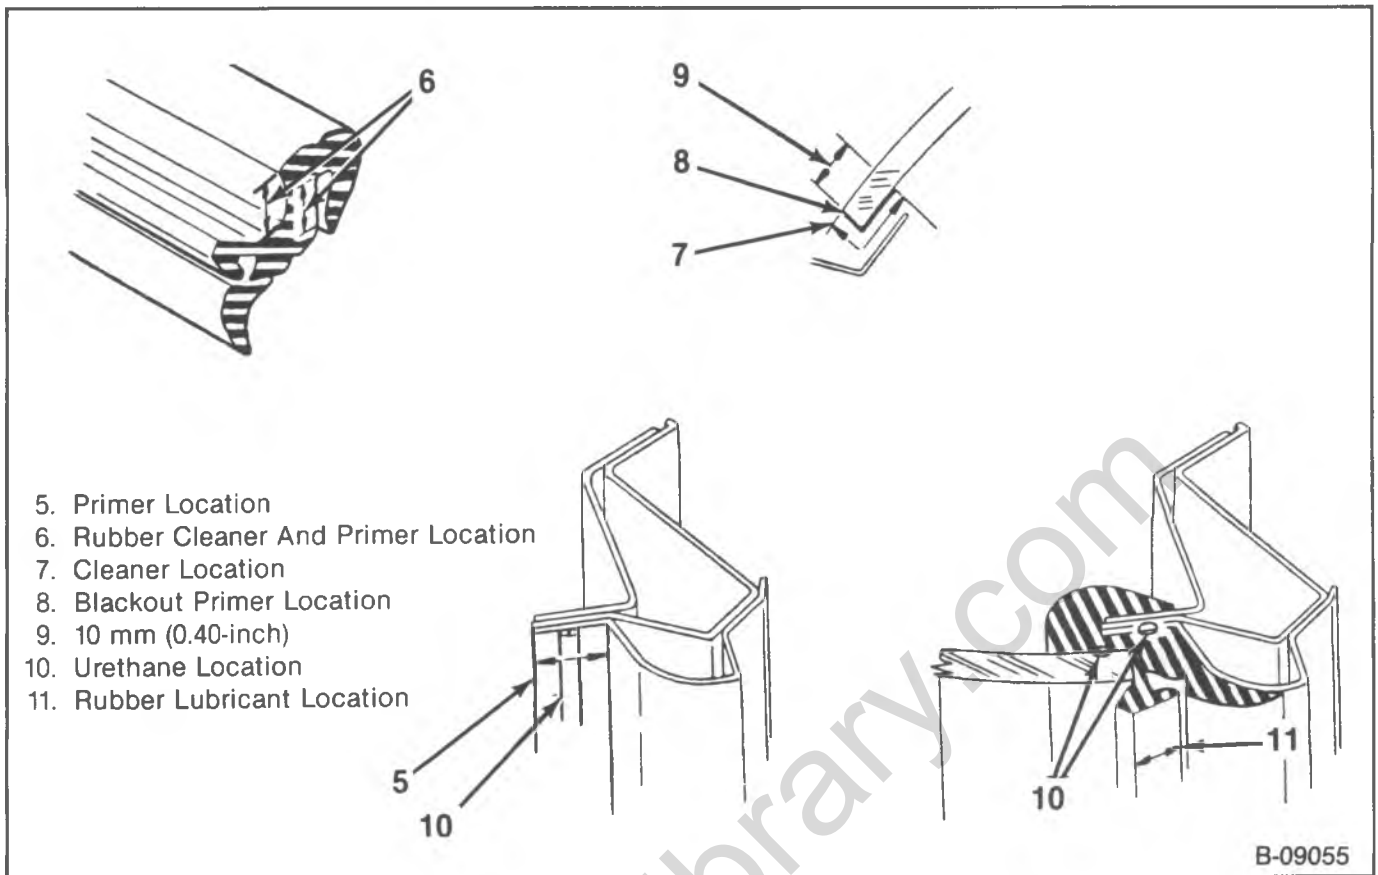

Figure 3—Primer and Adhesive Application Locations
Install or Connect (Figures 3 and 4)
7. Urethane adhesive bead with a 4.5 mm (.18-inch) diameter to the rubber weatherstrip glass channel (figure 3).